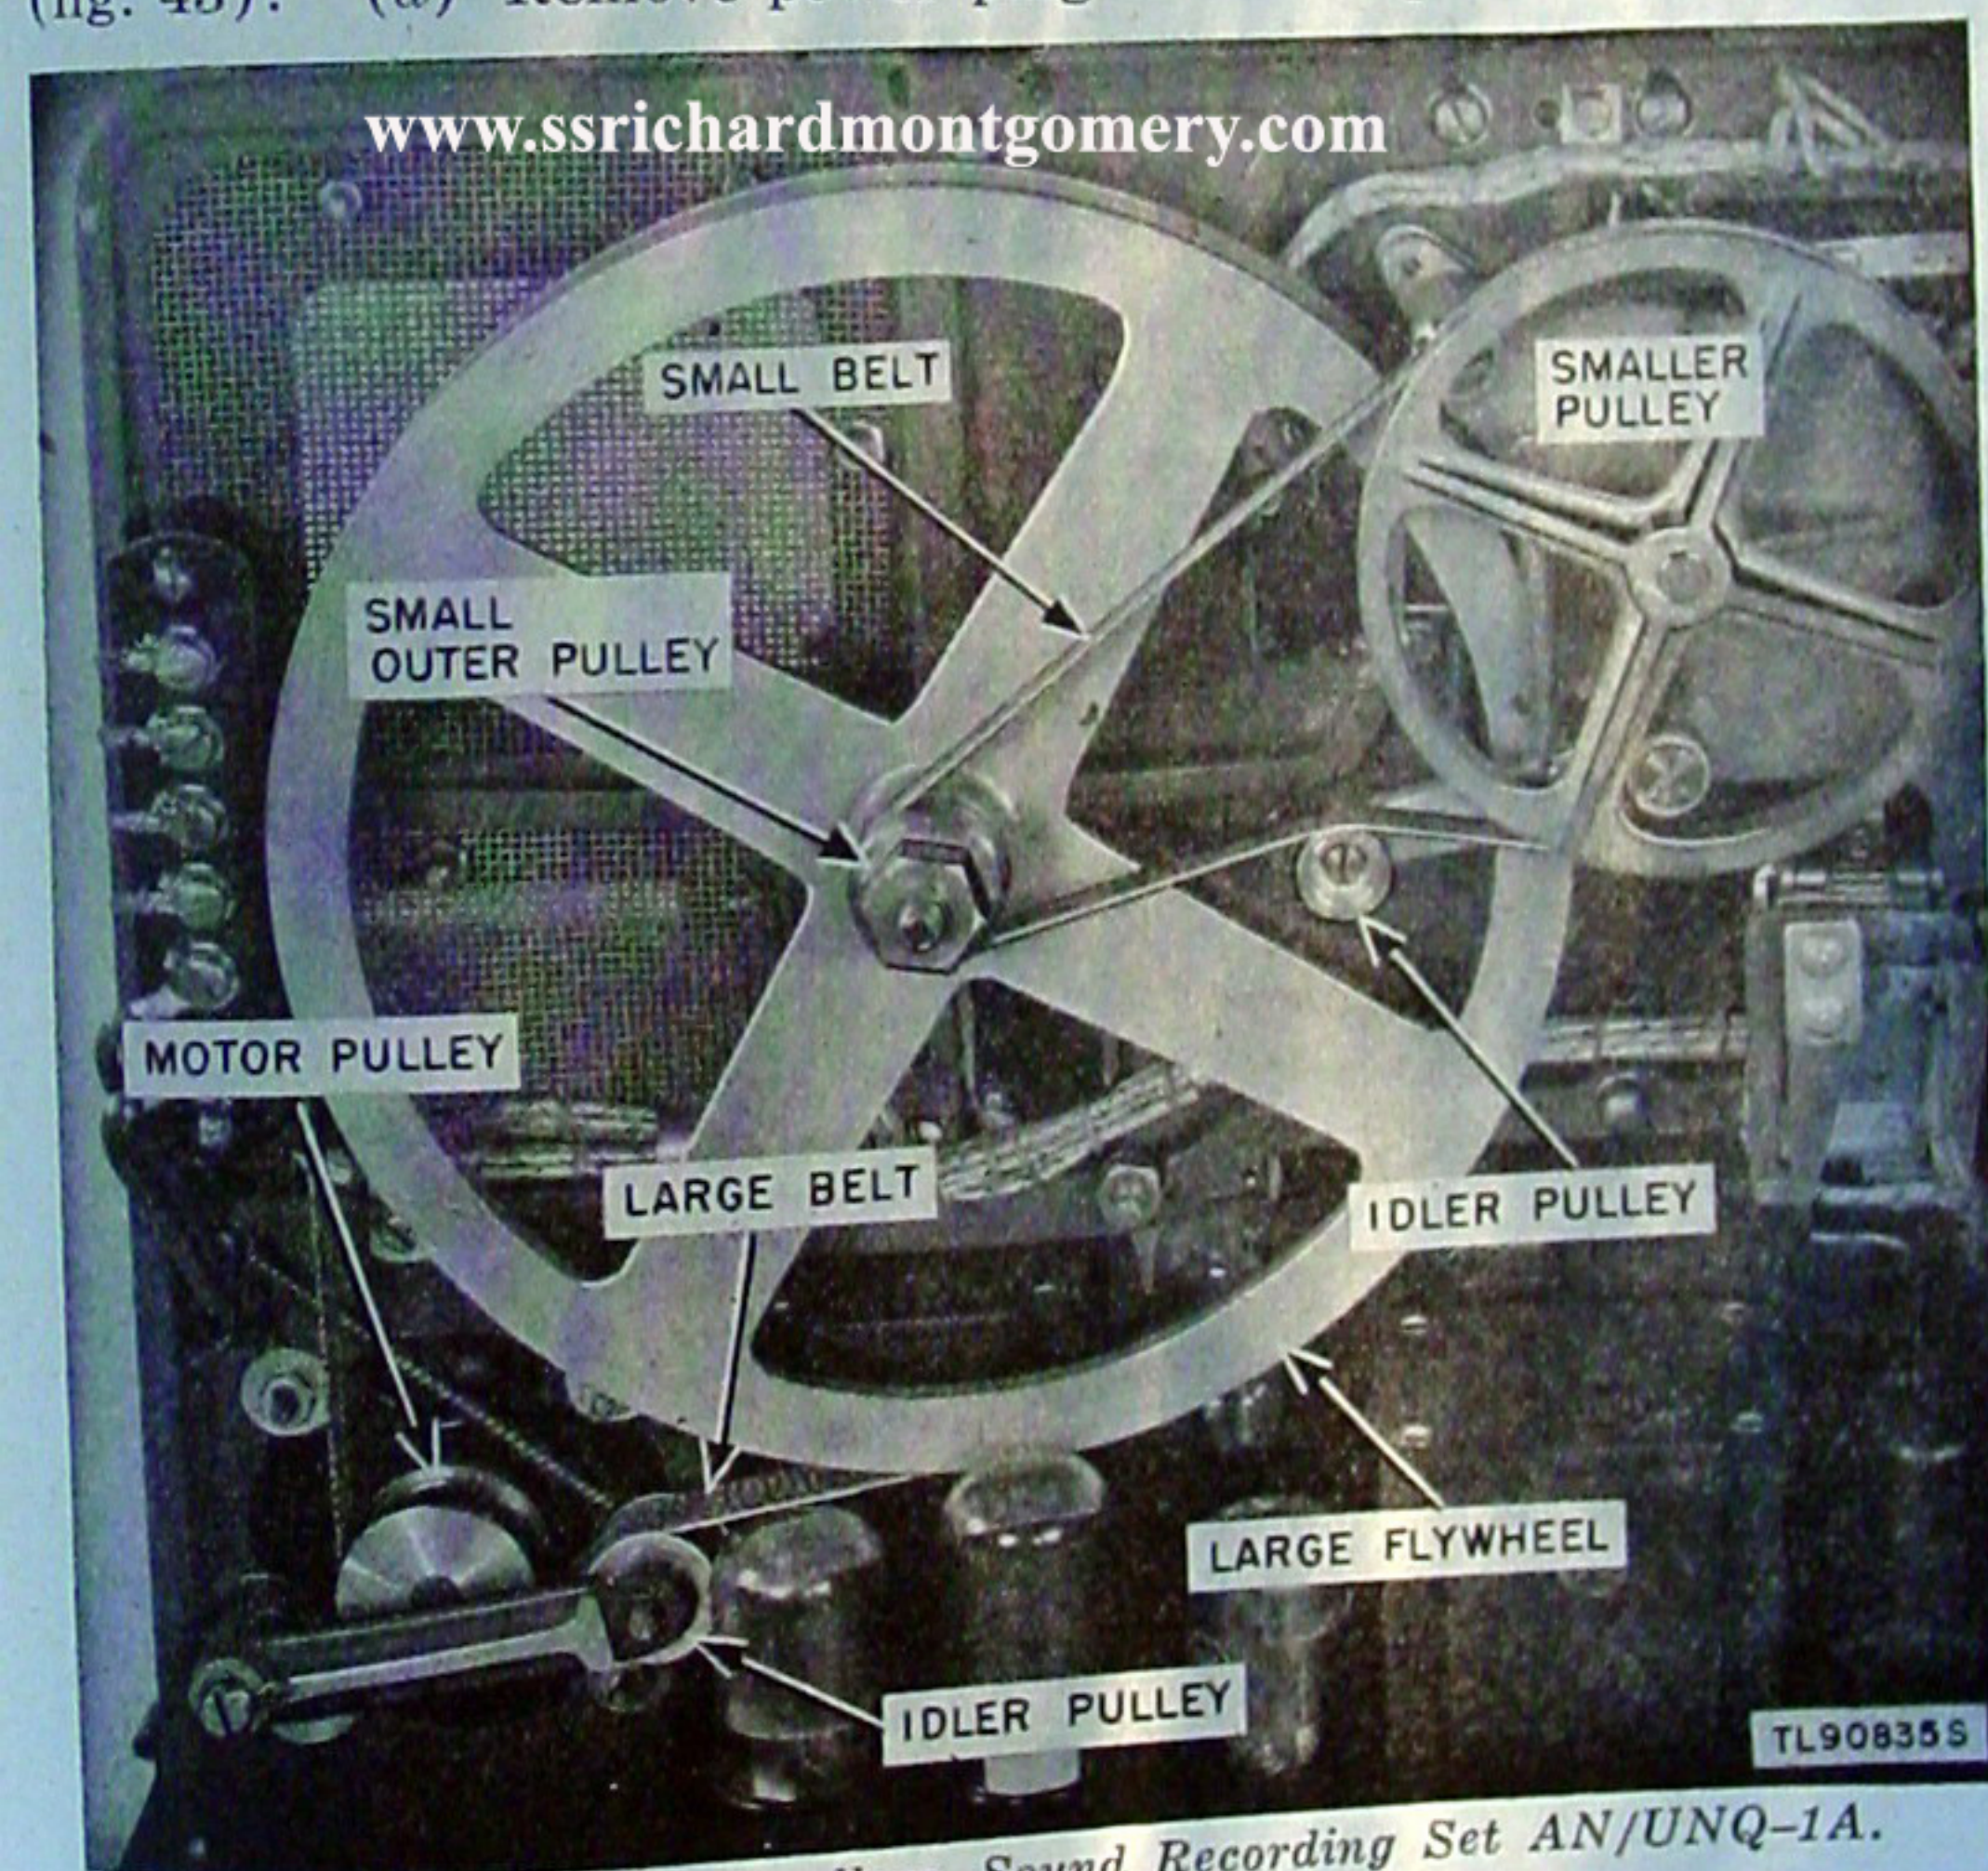

Figure 43. Belts and pulleys, *Sound Recording Set AN/UNQ-1A*.
(2) While placing the carriage bracket on the main frame, do not allow the recording needle to touch any part of the set. It will also be necessary to hold the playback-lift rod (123) in place until the assembly is back on the main frame.
(3) Adjust the recording arm for depth of track (par. 101).
(4) Turn the selector knob to RECORD. Loosen the setscrew (121) and back off the adjusting screw (62) until the surface of the screw clears the recording-arm-lift rod by about 0.010 to 0.015 inch. *This clearance must exist with the recording needle resting on a film.*
(5) After making this adjustment, check whether the recording needle clears the film in all other selector knob positions except RECORD.
94. Disassembly and Assembly of Belts (fig. 43)
a. DISASSEMBLY. (1) *Sound Recording Set AN/UNQ-1A* (fig. 43). (a) Remove power plug from receptacle.